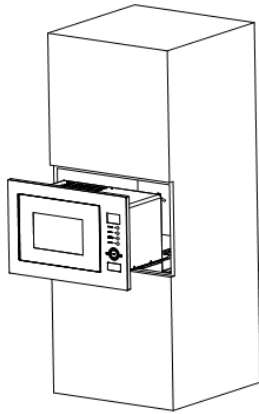

Fig. 4
d) Put the product into the cabinet till the metal distance-limited chunk fall down, as shown in Fig. 4